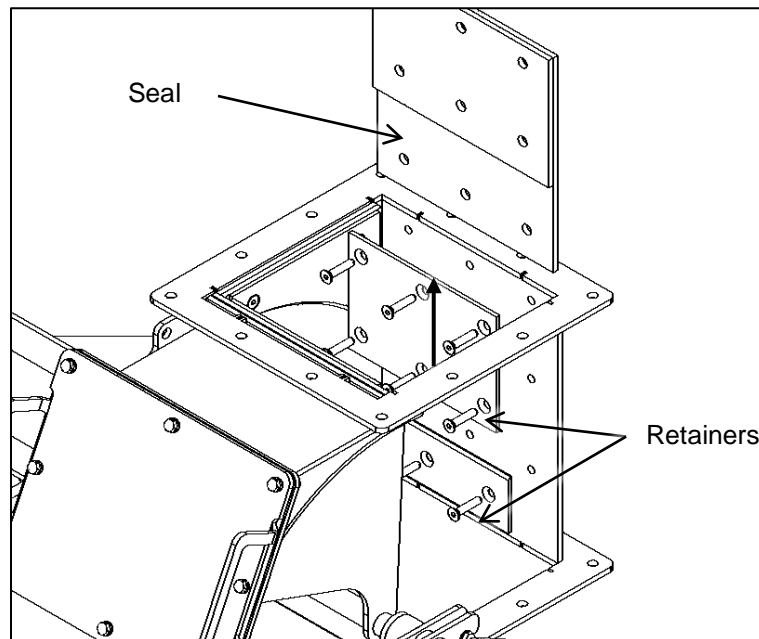

Figure 6: Front Retainer and Seal Removal.
3. Remove the seal retainers and old seal material. (See **Figure 4-Figure 6**)